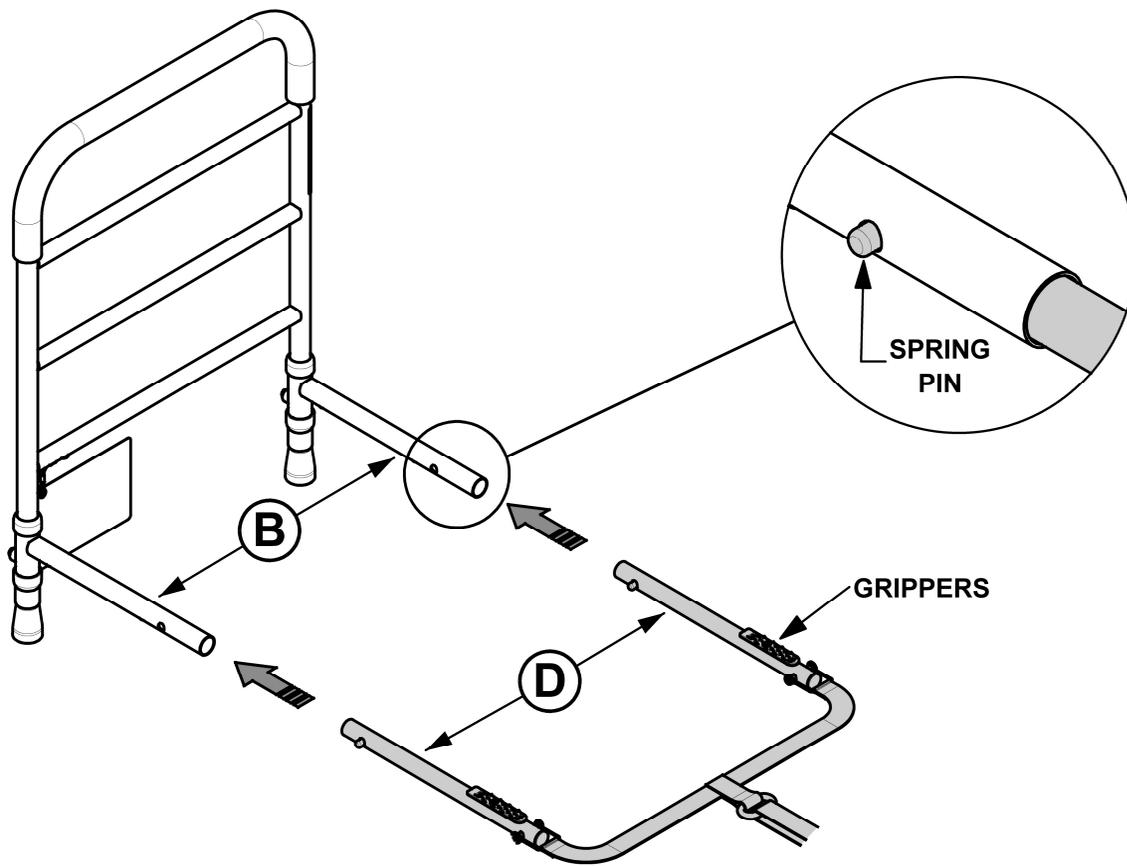

FIGURE 2
2. Insert Leg Tubes (D) until Spring Pin engages, making sure Grippers are facing up as shown in *FIGURE 2*.